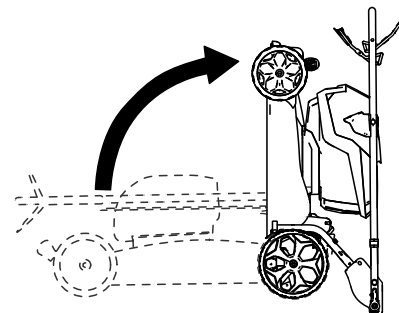

Figure 18
5. Fold the handle forward to the fully forward position as shown in Figure 18.
6. Lift the front of the machine by the handle and move it into a storage space (Figure 18).